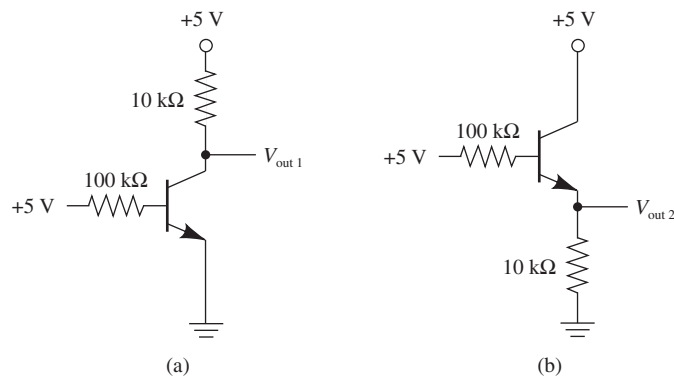

Figure P2-10
- 2-10. Find V_{out1} and V_{out2} for the circuits of Figure P2-10.